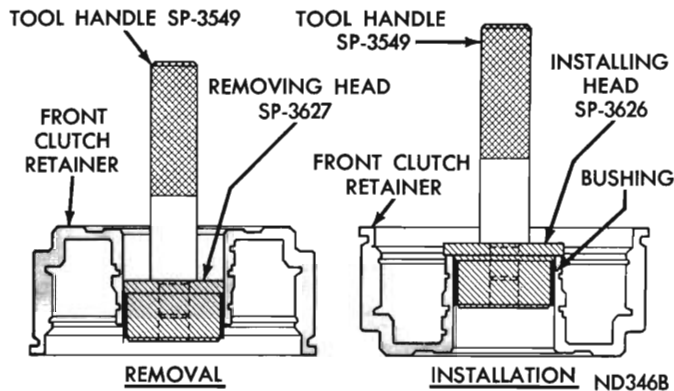

Fig. 72 - Replacing front clutch retainer bushing (A-904)
(1) Lay clutch retainer (open end down) on a clean smooth surface and place removing head Tool SP-3627 in the bushing (Fig. 72). Install handle Tool SP-3549 in removing head.
(2) Drive bushing straight down and out of clutch retainer bore. Be careful not to cock tool in the bore.
(3) Lay clutch retainer (open end up) on a clean smooth surface. Slide a new bushing on installing head Tool SP-3626, and start them in clutch retainer bore (Fig. 72).
(4) Install handle Tool SP-3549 in installing head. Drive bushing into clutch retainer until tool bottoms.
(5) Thoroughly clean clutch retainer before assembly and installation.